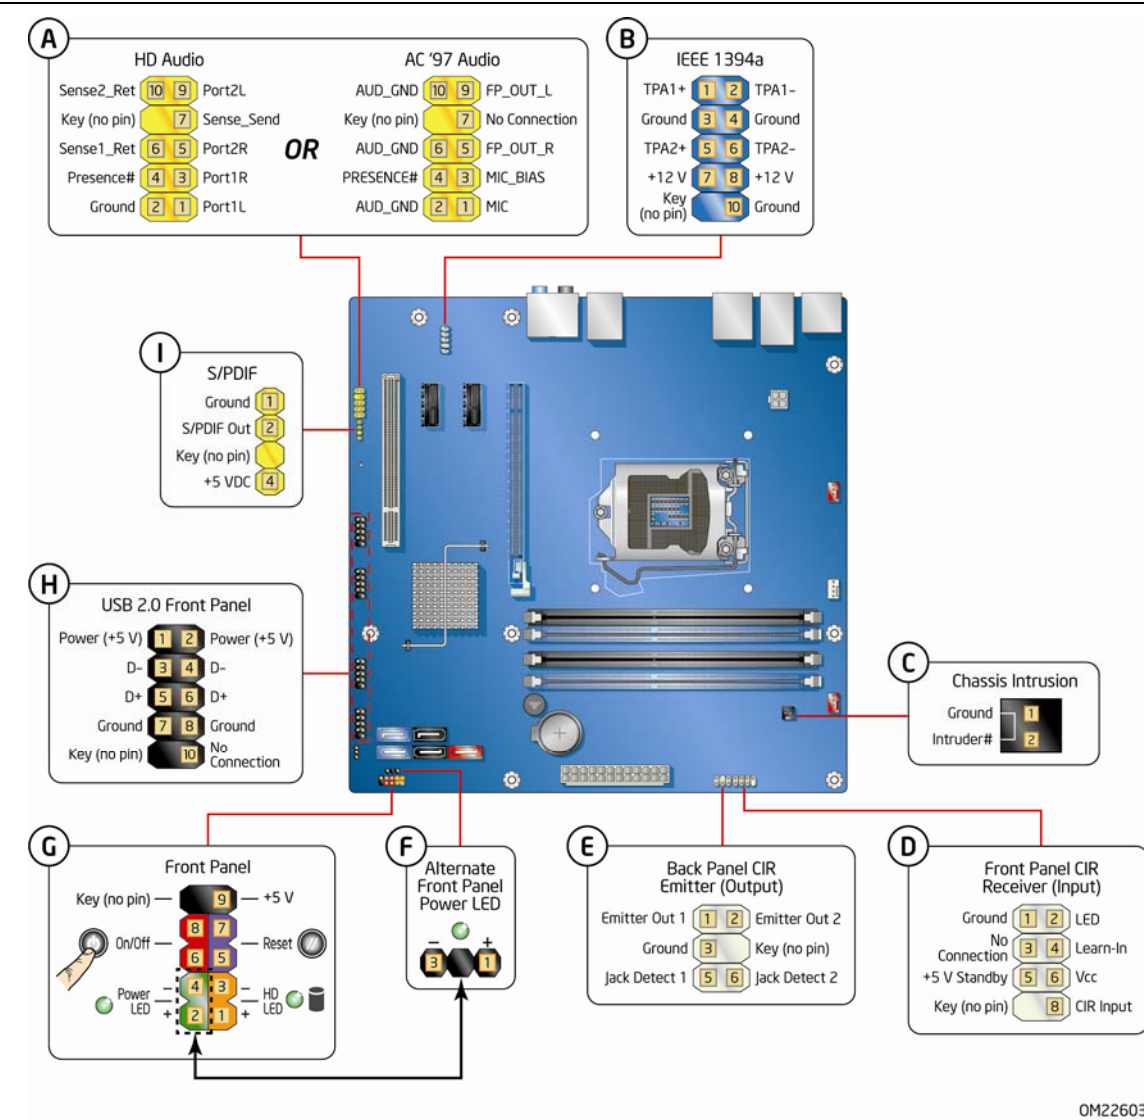

Figure 20. Internal Headers
Before connecting cables to any of the internal headers, observe the precautions in “Before You Begin” on page 25. Figure 20 shows the location of the internal headers and connectors on Intel Desktop Board DP67DE.
The front panel audio header shown in Figure 20, A supports both Intel High Definition (HD) Audio and AC '97 Audio.